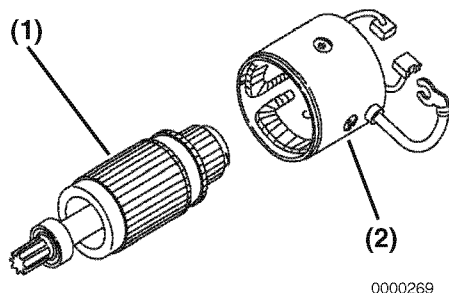

Figure 11-30
7. Carefully install the armature assembly (**Figure 11-30, (1)**) into the field coil assembly (**Figure 11-30, (2)**).